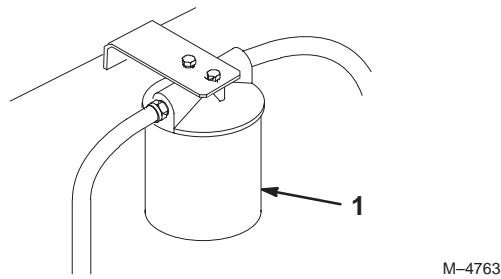

Figure 55
3. Place a drain pan under filter, remove the old filter and wipe the filter adapter gasket surface clean (Fig. 55).